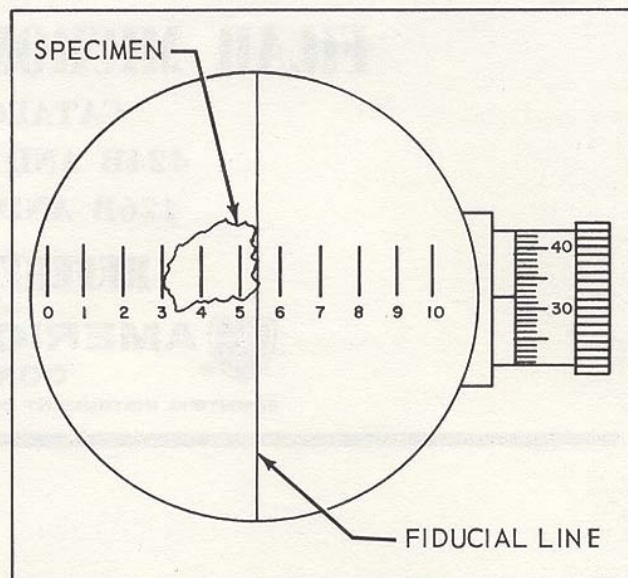

Fig. 2
4. Position the reticle scale by means of the reticle scale adjustment so that "0", or any convenient graduation, of the reticle is lined up with the left side of the image of the specimen to be measured. See figure 2.
- a. Record the number of full reticle spaces the specimen covers. For example, 2 spaces as shown in figure 2.
- b. Record the drum reading composed of two digits between 00 and 99. For example, 32 as shown in figure 2. Add this suffix to the reticle graduation recorded above to complete the reading which is 232 as shown in figure 2.